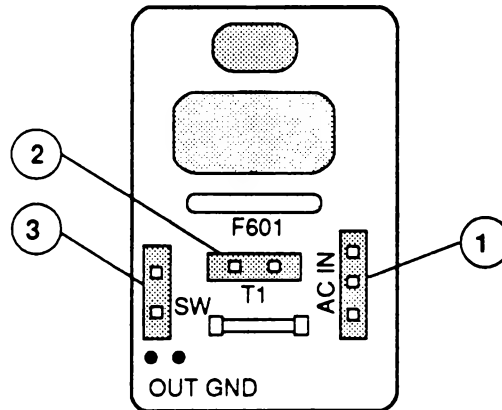

**FIGURE 17**
- AC IN (Figure 17, #1)
- T1 (Figure 17, #2)
- SW (Figure 17, #3)